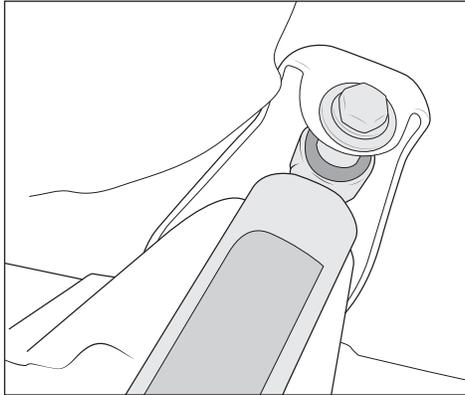

Figure 9
10. Install new shocks at upper mount using factory hardware. Shock body sits at the top with AEV graphic facing outward at vehicle (Fig 9).